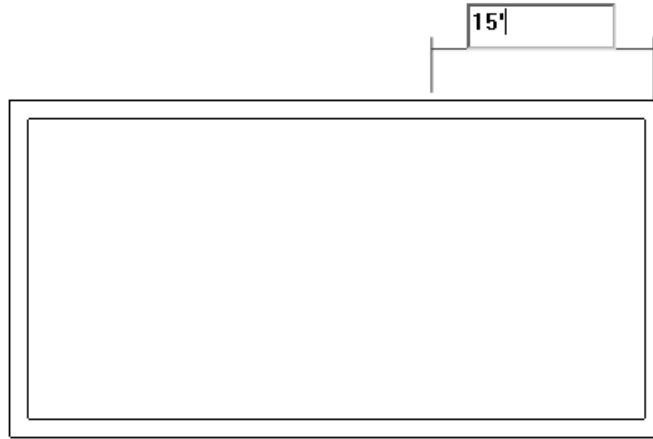
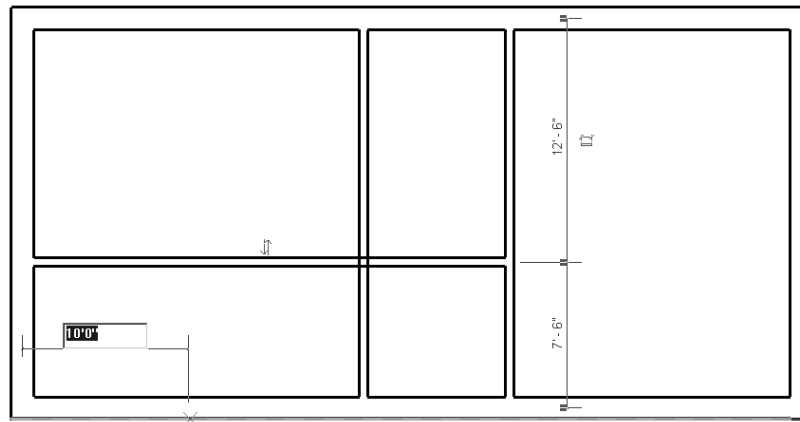

Figure 3-52 Specifying the distance for starting the first interior wall segment
Figure 3-58 Sketching the interior walls of the bath
- e. Sketch the interior walls based on the given parameters, refer to Figures 3-52 through Figure 3-58.
2. Enter **15'0"** from the keyboard, as shown in Figure 3-52. Now press ENTER; the starting point of the first interior wall is specified.
5. Similarly, move the cursor near the lower left corner and then move it horizontally toward the right. When the temporary dimension and the intersection object snap appears, enter the value **10'0"**, as shown in Figure 3-58 and then press ENTER.